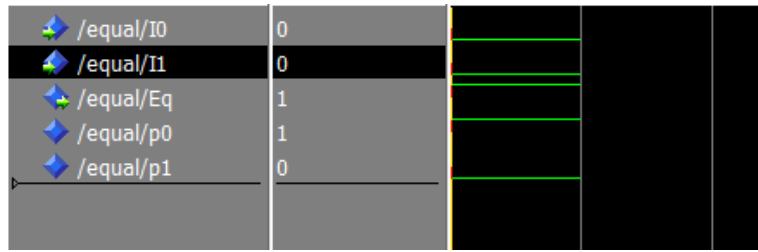

Figure 23. Result of first run after forcing values $i0=0$, $i1=0$.
22. You should obtain the following result in the waveform panel after your first 100ps run shown in figure 23. Notice how i0 and i1 have a value of 0, Eq has a value of 1 now, which is expected since in this case $i0=i1$.